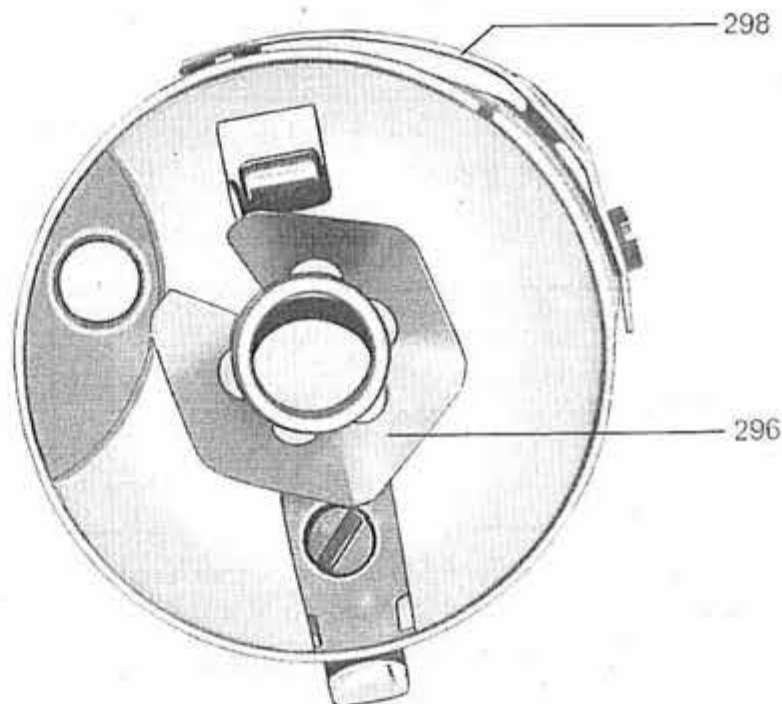

Fig. 52
- a) Use bobbin case top with the brake disk 296 (fig. 52). In case of a sudden unwinding of the lower thread this brake disk avoids an excessive rotation of the bobbin. But its braking effect on the bobbin must be considered when adjusting the bobbin thread tension, i.e. the tension spring 298 must be regulated carefully, in order to avoid an excessive tension of the bobbin thread.